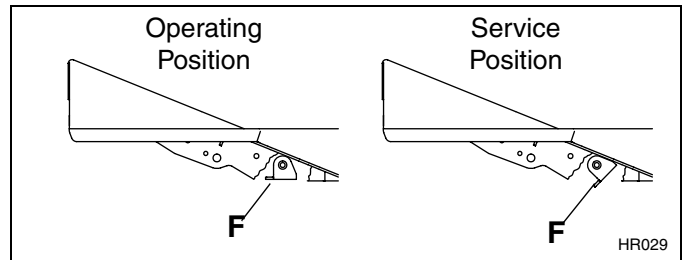

Figure 3C
1. Rotate anti-sway mechanism **(F)**, located under left side floor panel, to Service position. Figure 3C
4. Rotate anti-sway mechanism **(F)** to it's operating position. Figure 3C